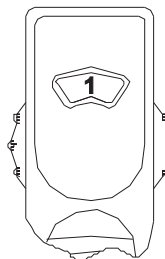

Fig. 6 Stroke setting wheel
9. Make sure that the stroke setting wheel (Fig. 2, Pos. 1) is set to position "1" (see Fig. 6).